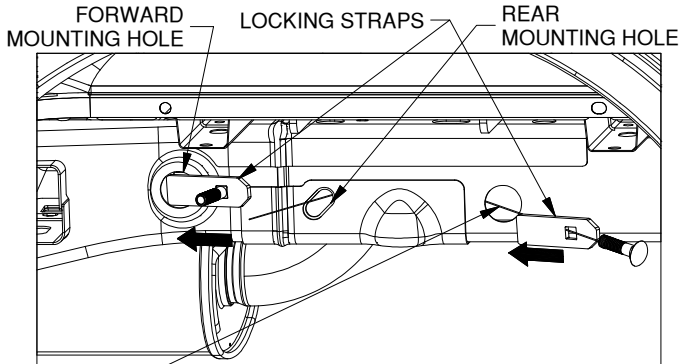
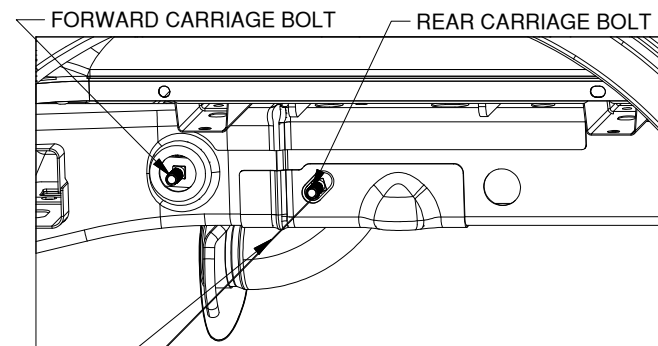
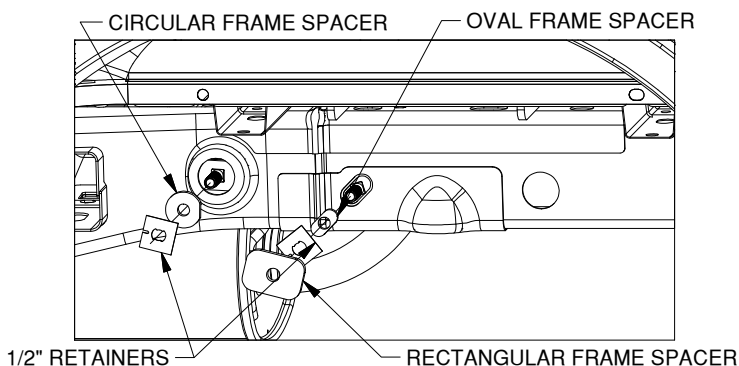

Figure C1: View of driver side wheel well.
Figure C2: View of driver side wheel well.
Figure C3: View of driver side wheel well.
1. **Install forward carriage bolt.** Each carriage bolt is held in the frame with a locking strap, frame spacer and 1/2" retainer. Locate the forward mounting hole shown in Figure C1. Attach the carriage bolt to the locking strap by passing the bolt through the strap. Insert the locking strap through the mounting hole, until it is completely inside the frame and only the carriage bolt is passing through the hole, see Figure C2. Install a circular frame spacer onto the bolt, see Figure C3. To prevent the bolt from falling into the frame, thread a retainer onto the bolt until it is snug.
2. **Install rear carriage bolt.** Locate the rear mounting hole shown in Figure C1. Use a fish wire to thread the rear carriage bolt and locking strap into the mounting hole, see Figures C1 & C2. Install an oval frame spacer onto the carriage bolt, see Figure C3. Thread a retainer onto the bolt until it is snug against the frame. Place a rectangular frame spacer on the rear carriage bolt. Repeat Steps 1 & 2 on the other side of the truck.